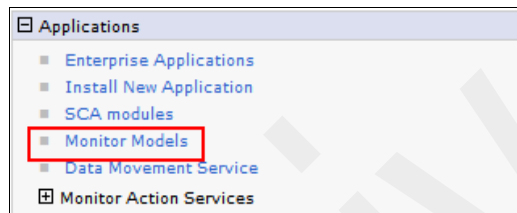

Figure 3-46 WebSphere Administrative Console
1. In the WebSphere Administrative Console (Figure 3-46), expand **Applications** and click **Monitor Models**.